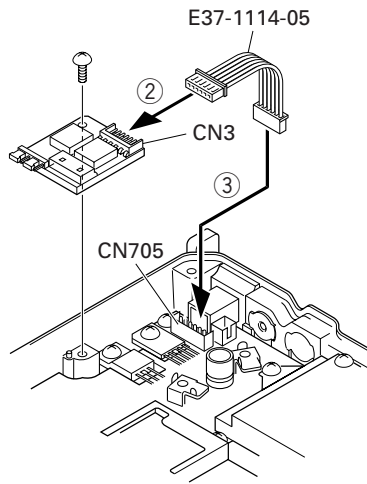

Fig. 2-2
3. Remove the 6-pin jumper connector inserted in the TX-RX unit (A/2) connector (CN705). ( ① )
4. Insert one side of the lead wire with connector (E37-1114-05) into the relay unit connector (CN3) ( ② ) and the other side into the TX-RX unit (A/2) connector (CN705) ( ③ ).
5. Place the relay unit at the position shown in Figure 2-2 and secure it to the chassis with a screw.
6. Remove the cap on the rear of the chassis by pushing it from the inside with your finger. ( ④ )
7. Pass the 6-pin connector of the cable (E37-1113-05) through the chassis hole ( ⑤ ) and insert the bush into the chassis hole.
8. Rotate the bush of the cable 90 degrees counterclockwise as viewed from the rear of the chassis. ( ⑥ )
9. Insert the 6-pin connector of the cable into the connector (CN2) of the KAP-2 relay unit. ( ⑦ )